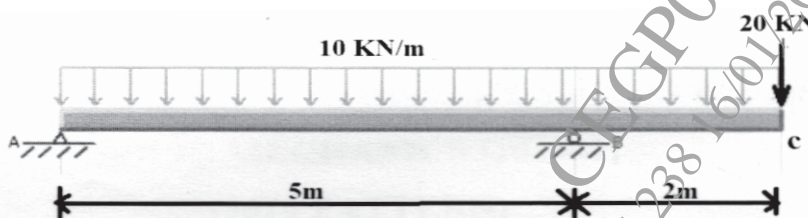

Fig 3.2
b) Draw SFD & BMD of the beam shown in figure 3.2, also locate the point of contraflexure from left end. [8]